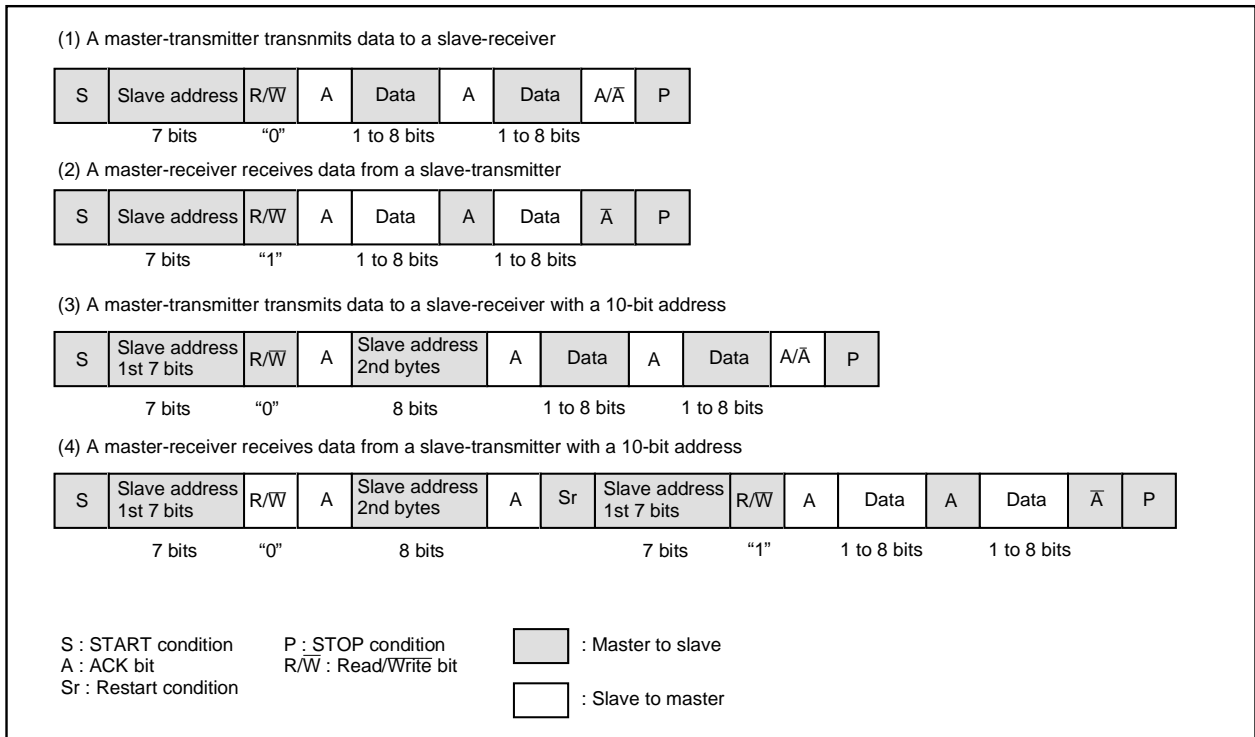

Fig. 39 Address data communication format
① 7-bit addressing format
To adapt the 7-bit addressing format, set the 10BIT SAD bit of the I²C control register (address 002E₁₆) to "0." The first 7-bit address data transmitted from the master is compared with the high-order 7-bit slave address stored in the I²C address register (address 002C₁₆). At the time of this comparison, address comparison of the RWB bit of the I²C address register (address 002C₁₆) is not performed. For the data transmission format when the 7-bit addressing format is selected, refer to Figure 39, (1) and (2).
② 10-bit addressing format
When the first-byte address data agree with the slave address, the AAS bit of the I²C status register (address 002D₁₆) is set to "1." After the second-byte address data is stored into the I²C data shift register (address 002B₁₆), perform an address comparison between the second-byte data and the slave address by software. When the address data of the 2 bytes agree with the slave address, set the RWB bit of the I²C address register (address 002C₁₆) to "1" by software. This processing can make the 7-bit slave address and R/\bar{W} data agree, which are received after a RESTART condition is detected, with the value of the I²C address register (address 002C₁₆). For the data transmission format when the 10-bit addressing format is selected, refer to Figure 39, (3) and (4).